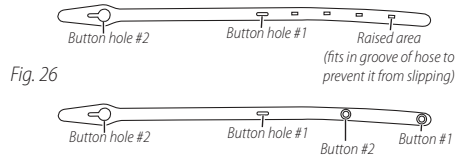
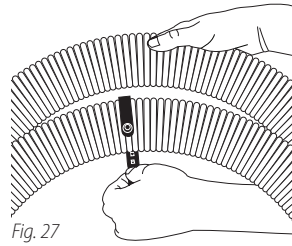

Fig. 26
Fig. 27
61. Wrap hose strap **19** **Fig. 26** around hose **12** aligning raised areas on back of strap **19** into a groove on hose **12** **Fig. 27.**